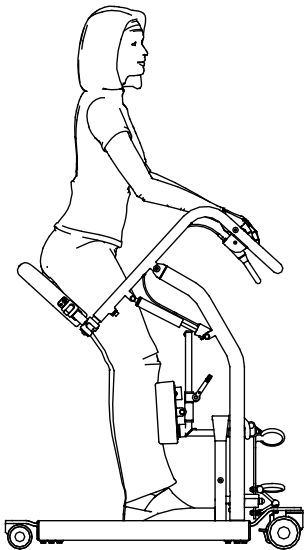

Figure 5
9. Instruct the patient to stand up (Fig. 5).